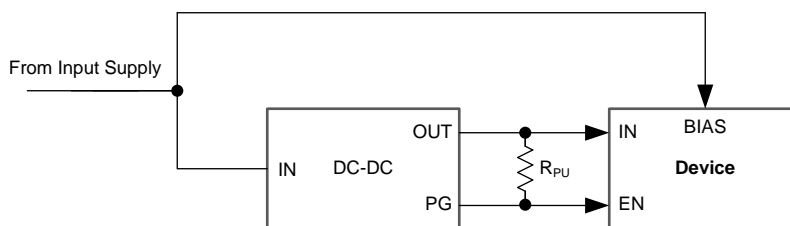

**Figure 50. Sequencing Diagram**
- VBIAS and VIN can be sequenced in any order, as long as VEN is tied to VIN or established after VIN, as shown in Figure 50.